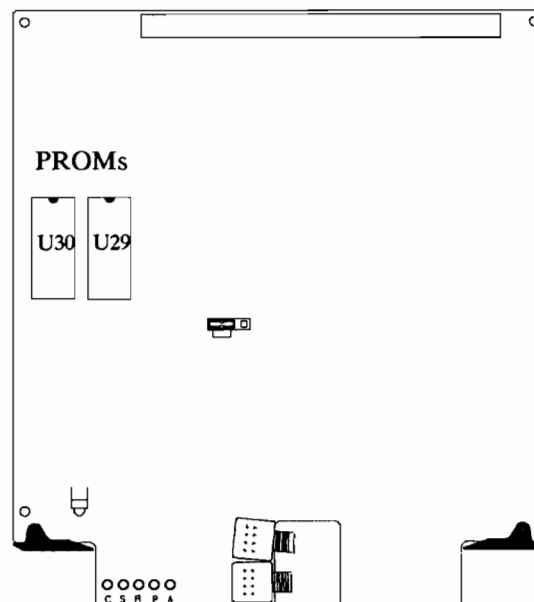

Figure 4-1. Location of PROMs
2. Locate the PROMs. Figure 4-1 shows the location designators and approximate positions of the PROMs on the PCA.